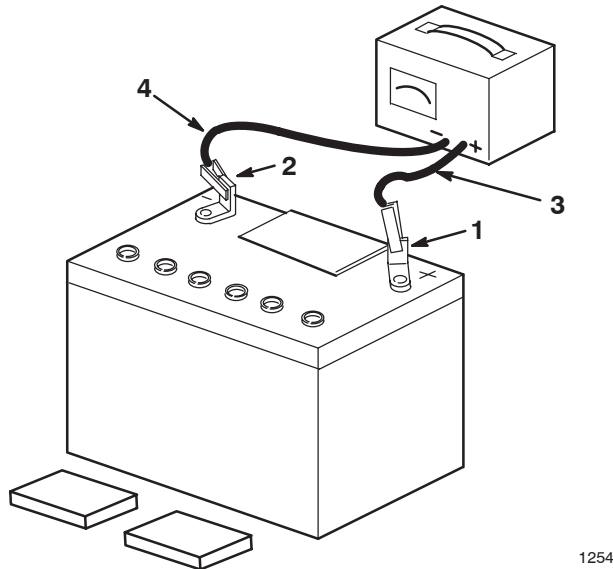

Figure 2
3. Leave the filler caps off and connect a 3–4 amp battery charger to the battery posts (Fig. 2). Charge the battery at a rate of 4 amperes or less for 4 hours (12 volts).
4. When the battery is fully charged, unplug the charger from the electrical outlet, then disconnect the charger leads from the battery posts (Fig. 2).